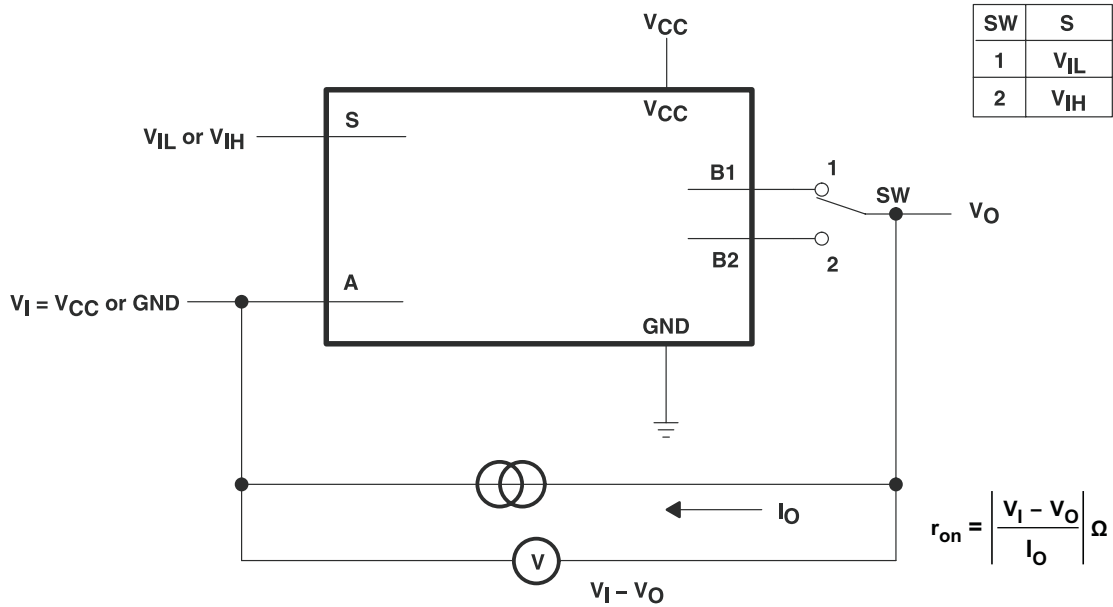

Figure 1. On-State Resistance Test Circuit
| r _{on} | On-state switch resistance ⁽²⁾ See Figure 1 and Figure 2 | V _I = 0 V, I _O = 4 mA | 1.65 V | 11 | 20 | Ω |
| r _{range} | On-state switch resistance over signal range ^{(2) (3)} 0 ≤ V _{Bn} ≤ V _{CC} (see Figure 1 and Figure 2) | I _A = -4 mA, 1.65 V | | | 140 | Ω |
| Δr _{on} | Difference of on-state resistance between switches ^{(2) (4) (5)} See Figure 1 | V _{Bn} = 1.15 V, I _A = -4 mA | 1.65 V | 0.5 | | Ω |